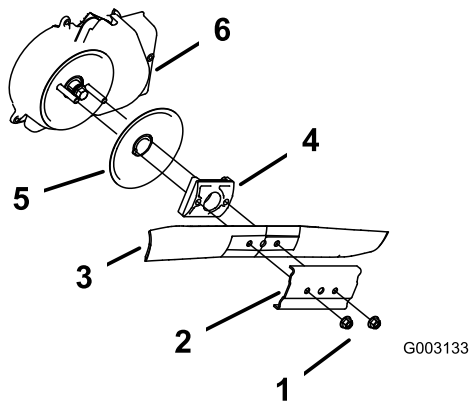

Figure 48
3. Remove the 2 blade nuts and the stiffener (Figure 48).
- Remove the blade (Figure 48).
- Remove the blade driver and disk (Figure 48).
- Remove the blade stop system shield (Figure 48).
- Install the blade and the stiffener that you previously removed (Figure 48).